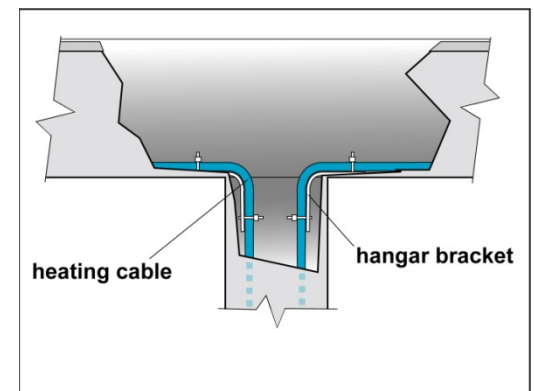

Figure 10: SRK15 Downspout Bracket
2. Use King SRK15 downspout brackets at the transition of the gutter and downspout to protect the cable from fraying, to prevent damage due to sharp edges and to provide a strain relief as shown in Figure 10. Refer to the SRK15 kit instructions for more installation details.